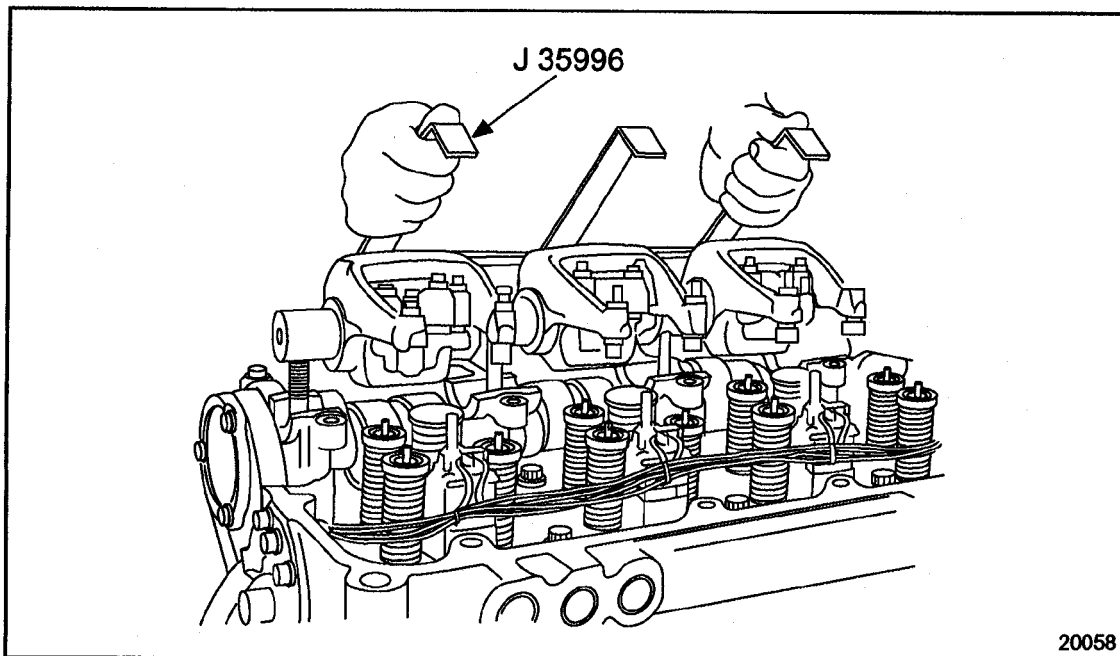

Figure 1-59 **Rocker Arm Shaft Assembly Installation**
5. Using care to locate the valve buttons to their respective valve stems and injector followers, install the rocker arm shaft assemblies to the cylinder head. See Figure 1-59.